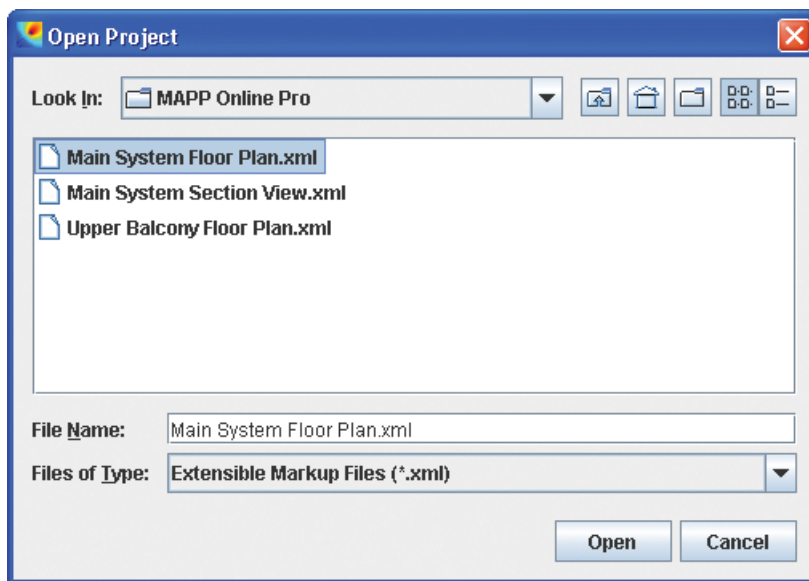

Figure 5. The Open Project dialog box
2. Click **Yes** to save the current project or **No** to proceed without saving. The Open Project dialog appears (Figure 5).